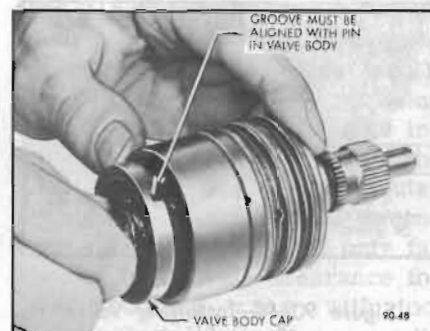

Figure 90-43—Assembling Stub Shaft, Torsion Bar and Cap Assembly in Valve Body
3. Assemble the stub shaft torsion bar and cap assembly in the valve body, aligning the groove in the valve cap with the pin in the valve body. See Figure 90-43. Tap lightly on the cap with a soft mallet until cap is against the shoulder in the valve body. Valve body pin must be in the cap groove. Hold these parts together during the rest of valve assembly.